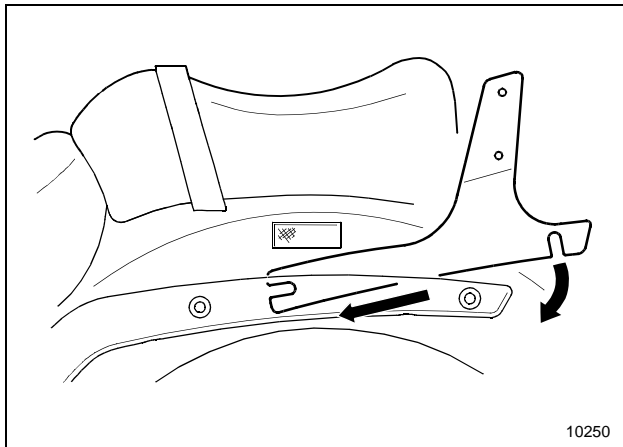

Figure 3
To prevent interference with the reflector, it may be necessary to remove the rear mounting screw (see Figure 3).
3. Attach the left side plate to the motorcycle by gently spreading apart the rear fender and left fender bracket. Guide the front slot of the left side plate under the reflector and over the front mounting screw. Guide the rear slot of the side plate over the rear mounting screw (see Figure 3).